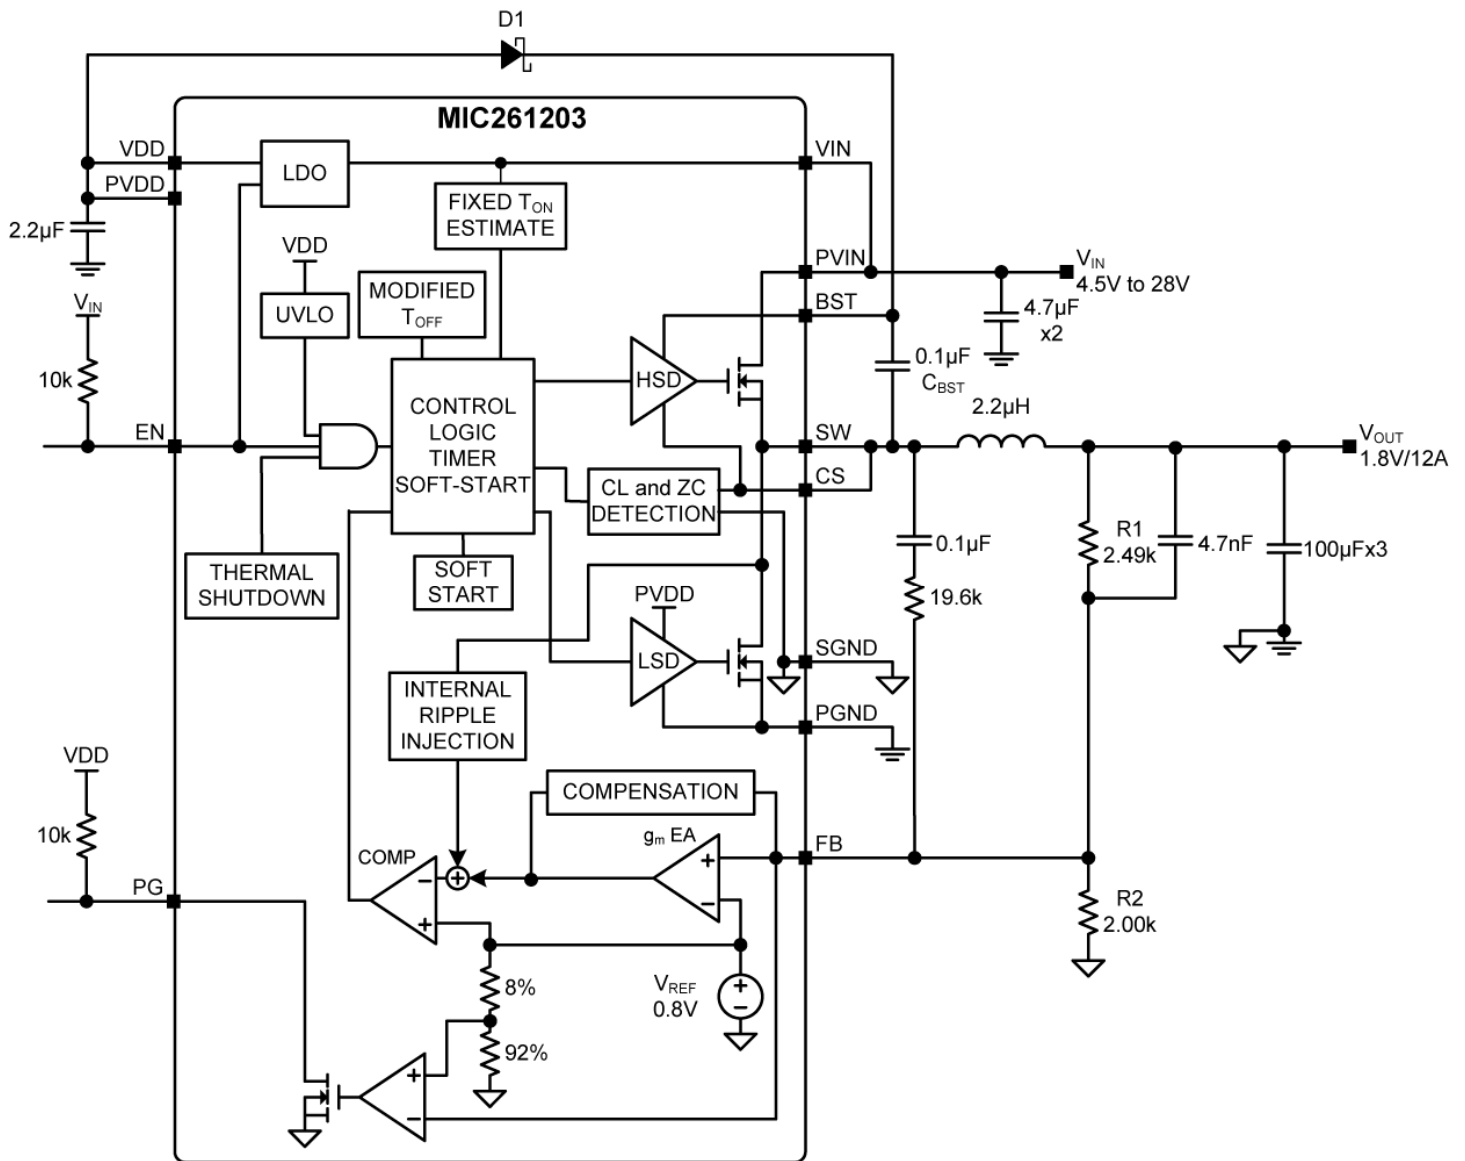

Figure 1. MIC261203 Block Diagram
The MIC261203 is able to operate in either continuous mode or discontinuous mode. The operating mode is determined by the output of the Zero Cross comparator (ZC) as shown in Figure 1.
The Block Diagram (Figure 1) shows a bootstrap circuit, consisting of D1 (a Schottky diode is recommended) and C_{BST} . This circuit supplies energy to the high-side drive circuit. Capacitor C_{BST} is charged, while the low-side MOSFET is on, and the voltage on the SW pin is approximately 0V. When the high-side MOSFET driver is turned on, energy from C_{BST} is used to turn the MOSFET on. As the high-side MOSFET turns on, the voltage on the SW pin increases to approximately V_{IN} . Diode D1 is reverse biased and C_{BST} floats high while continuing to keep the high-side MOSFET on. The bias current of the high-side driver is less than 10mA so a 0.1 μ F to 1 μ F is sufficient to hold the gate voltage with minimal droop for the power stroke (high-side switching) cycle, i.e. $\Delta BST = 10\text{mA} \times 1.67\mu\text{s}/0.1\mu\text{F} = 167\text{mV}$. When the low-side MOSFET is turned back on, C_{BST} is then recharged through D1. A small resistor R_G , which is in series with C_{BST} , can be used to slow down the turn-on time of the high-side N-channel MOSFET.